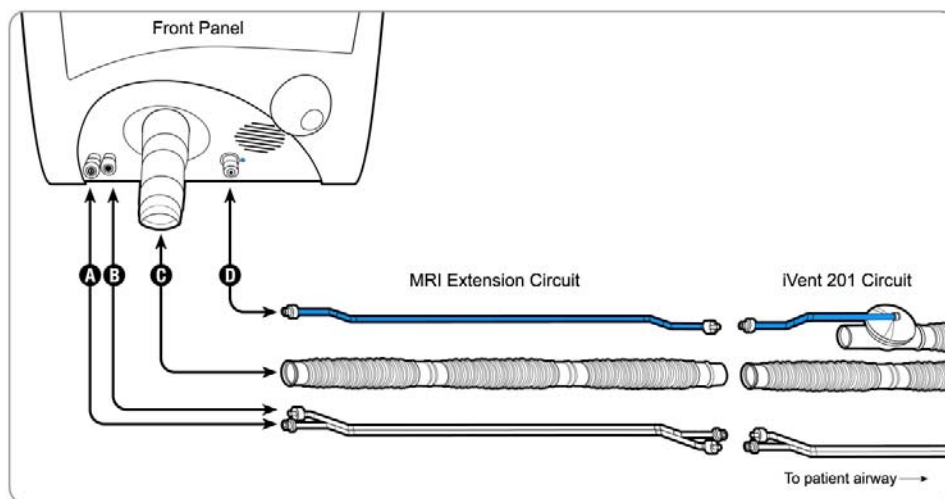

Figure 189: iVent™201 MRI Extension Circuit Attachment0.
2. On the front panel, connect the female end of the 22 mm Extension Tube to the Ventilator Outlet (C) as shown in Figure 189
3. Connect the Flow Sensor Double Tubings (transparent tubes) from the Extension Kit to their respective connectors near the Ventilator Outlet. The Flow Sensor Tubings are equipped with luer connectors - left female (A) and right male (B) to help differentiate between them.
4. On the right side of the front panel (D), connect the blue Exhalation Control Tube with a luer connector to the Exhalation valve luer inlet.